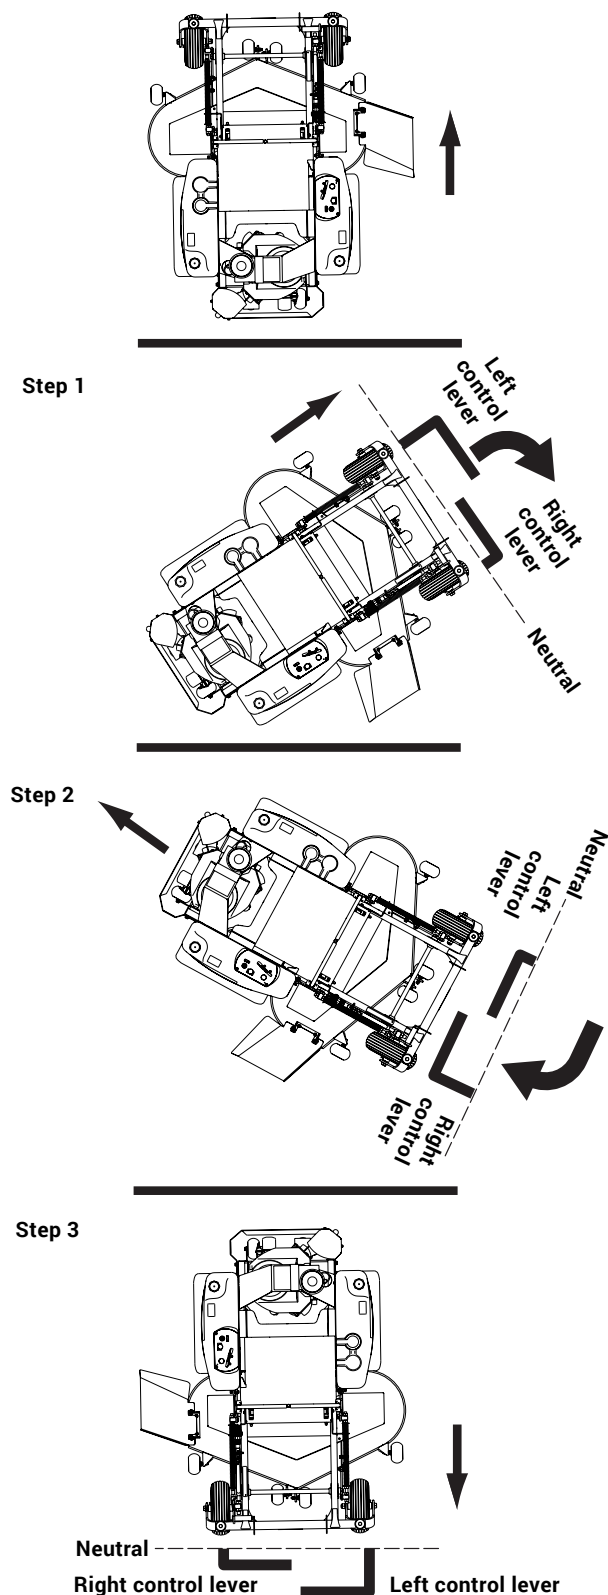

Figure 3-11
1. Move the left steering control lever farther forward from neutral than the right steering control lever and start the turn. Figure 3-11
2. Next, pull back on the steering control levers until they pass neutral and the machine starts to go rearward. Figure 3-11
3. Pull the right steering control lever farther rearward from neutral than the left steering control lever until the rear of the machine pivots around. Figure 3-11
4. Then, push the steering control levers forward until they both pass neutral and the machine starts to go forward. Figure 3-11
5. Push the left steering control lever farther forward from neutral than the right steering control lever and finish the turn. Figure 3-11